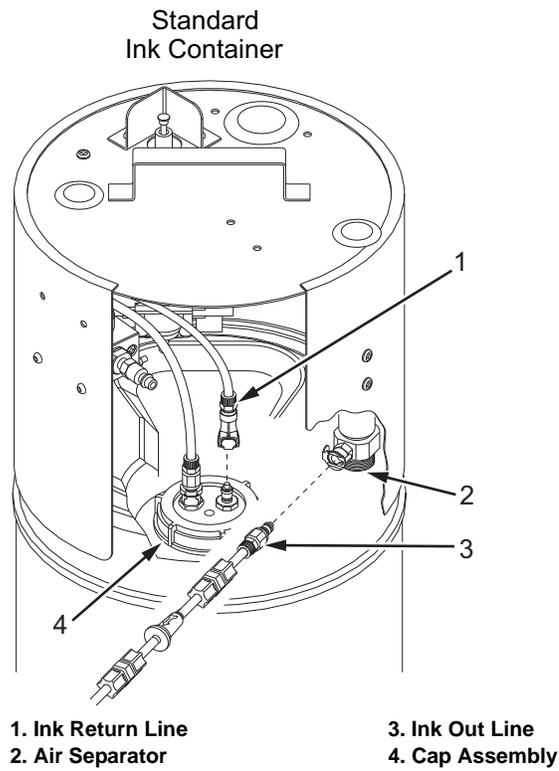
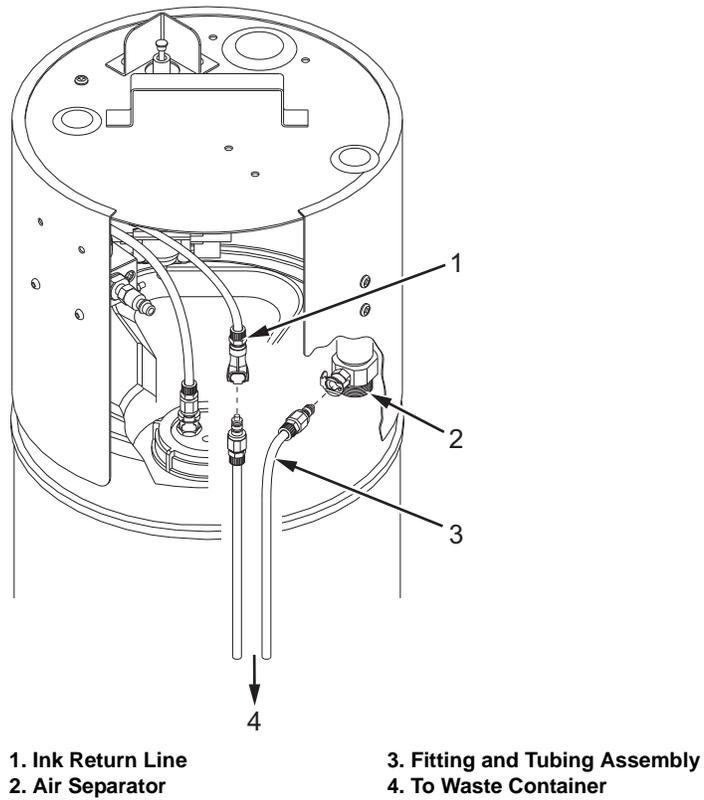

Figure 6-7. Flushing the ADS
Figure 6-8. Flushing the ADS
- 2 Install a male fitting (RP14562) and a short piece of tubing (RP25882) on the ink return line (refer to Figure 6-8 on page 6-9).
- 3 Disconnect the ink out line from the air separator (refer to Figure 6-7 on page 6-8), and install a male fitting (RP14562) and a short piece of tubing (RP25882) on the out line (refer to Figure 6-8 on page 6-9).